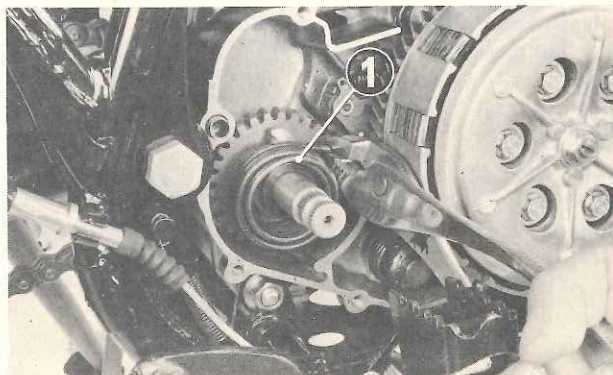

Fig. 3-45 (1) Kick starter spring
2. Install kick starter spring and kick starter pedal as per instructions given in Figs. 3-45.